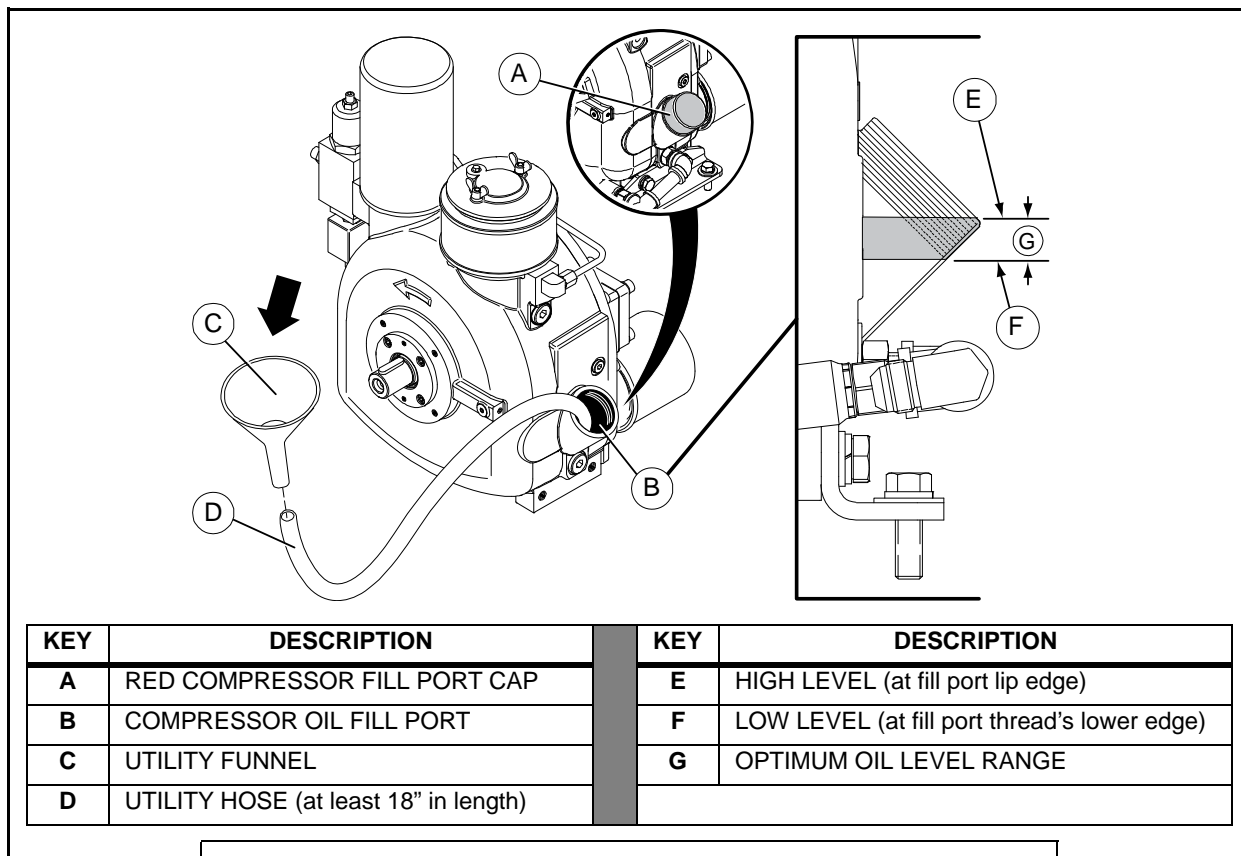

Figure 6-6: Compressor Oil Fill Location and Level Check
Consult **Figure 6-6** and the following procedure to check the compressor oil.
3. Verify the oil level by comparing actual level to range [G] in **Figure 6-6**.
4. Add oil as needed; addition of oil to compressor chamber can be more easily accessed by using a utility hose [D] and funnel [C], as per **Figure 6-6**.
5. Once the oil filter and air/oil coalescer have been replaced, access the compressor oil fill port by removing the cap ([A] in **Figure 6-6**) and filling the compressor unit to the service capacity level (two and a half [2.5] quarts) with Vanguard™ Premium Synthetic Oil. Note the acceptable range for the oil level [G] from **Figure 6-6** when filling the compressor unit reservoir.